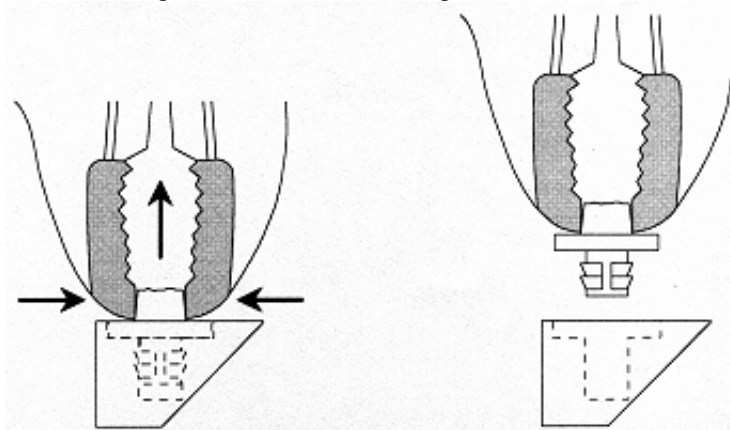

Figure 2.4 - Remove grille pin. Check for pin fragments in the mounting hole.
2. Remove the damaged grille pin by pulling it straight out with a small pliers or similar tool. Please refer to figure 2.4. Make sure that the complete pin is removed and that there are no pin fragments left in the mounting hole.